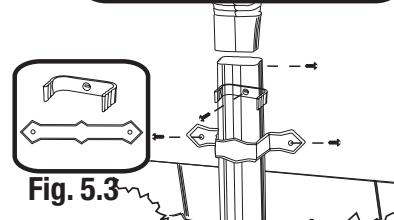

Fig. 5.3
- Fasten downspouts snugly against wall with 2 bands per 10 ft. section using nails or screws. (Fig. 5.3)